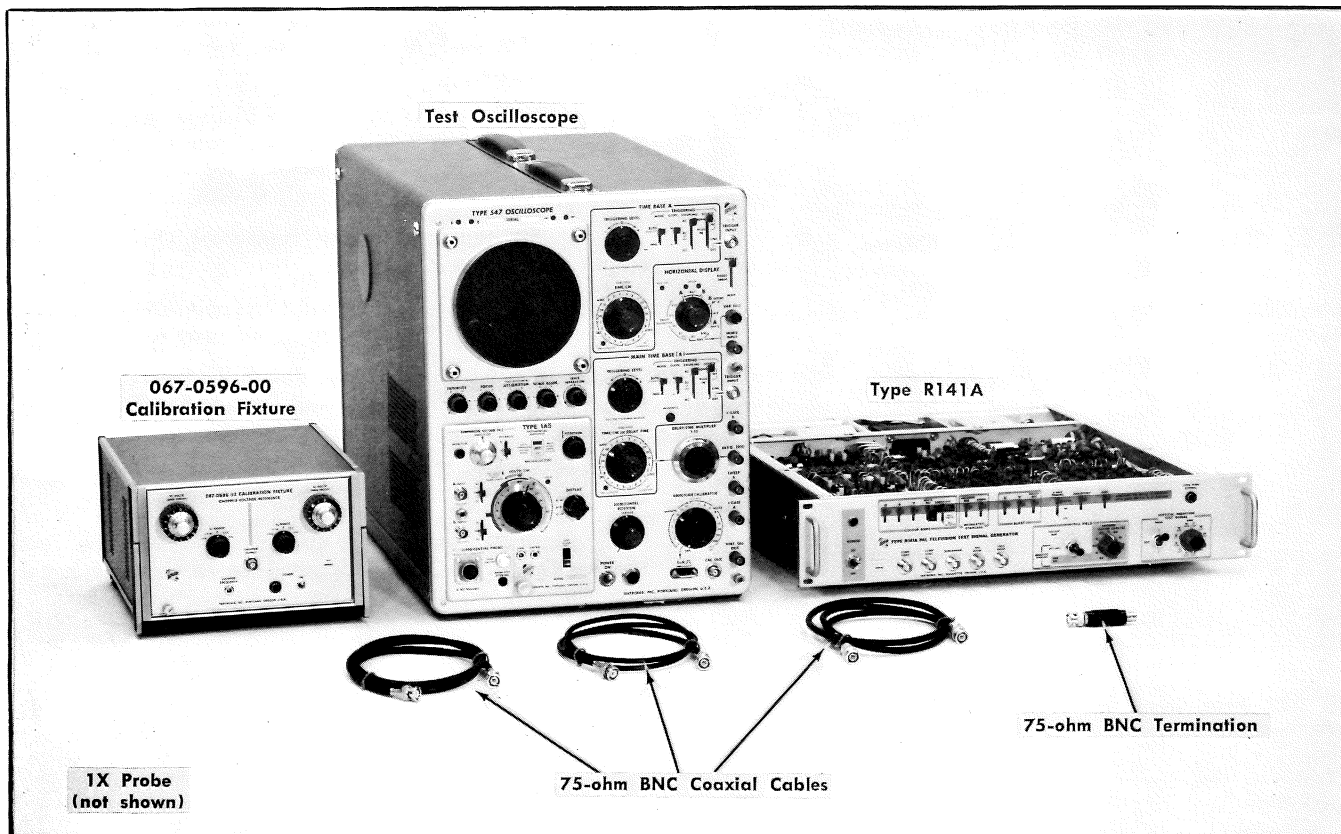

Fig. 5-21. Test equipment required for steps 17 through 31.
**17. Check/Adjust Spurious Subcarrier** ❶
- a. Test equipment is shown in Fig. 5-21.